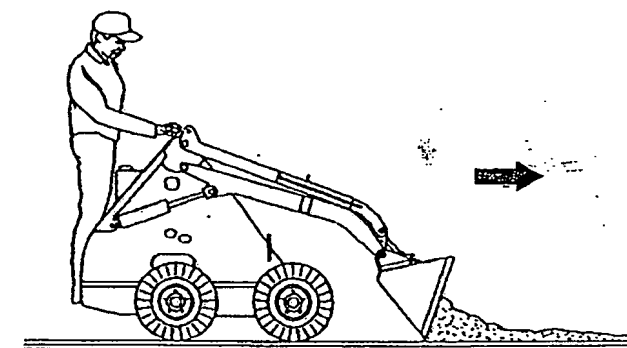

FIGURE 16
1. To spread material on uneven ground, raise lift arms and tilt bucket forward while driving slowly forward, as in Figure 16.